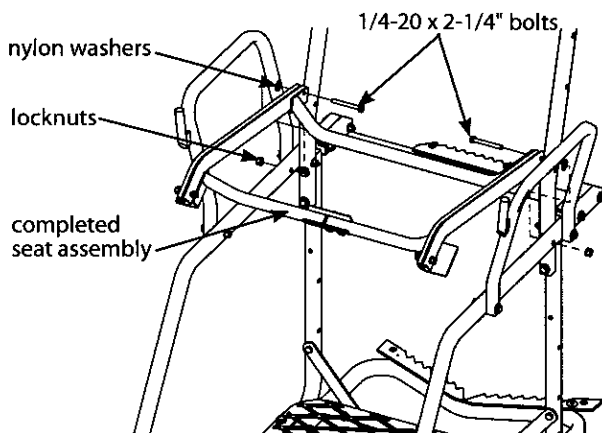

Figure 7
10. Remove the locknuts from the (2) 1/4-20 x 2-1/4" bolts that were previously attached to the rear of the seat assembly. Continue by attaching the seat assembly to the ladder side rails using (2) provided 1/4-20 x 2-1/4" bolts, locknuts and nylon washers. **SEE FIGURE 7. Make sure all (4) angle brackets are fully cradling fabric rails.**